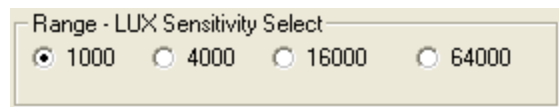

FIGURE 33.
**Range-LUX Sensitivity Select** allows the user to choose the sensitivity of the sensor based on external conditions/object detection. For example, a really bright object would require a higher range (i.e., 64000), versus a dark object, which would require a low range (i.e., 1000). Higher range reduces photo detector sensitivity (see Figure 33).